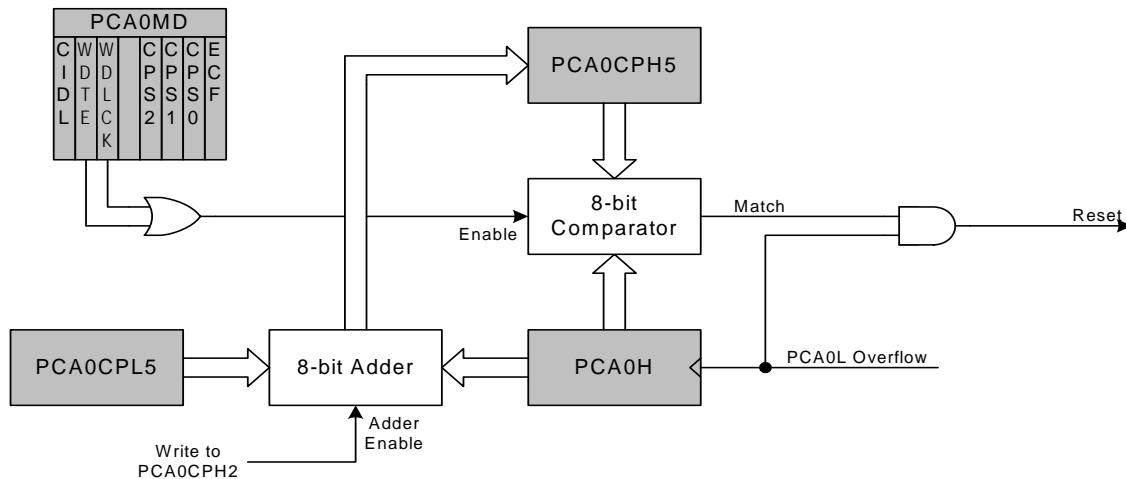

Figure 26.11. PCA Module 5 with Watchdog Timer Enabled
While the WDT is enabled, writes to the CR bit will not change the PCA counter state; the counter will run until the WDT is disabled. The PCA counter run control bit (CR) will read zero if the WDT is enabled but user software has not enabled the PCA counter. If a match occurs between PCA0CPH5 and PCA0H while the WDT is enabled, a reset will be generated. To prevent a WDT reset, the WDT may be updated with a write of any value to PCA0CPH5. Upon a PCA0CPH5 write, PCA0H plus the offset held in PCA0CPL5 is loaded into PCA0CPH5 (See Figure 26.11).